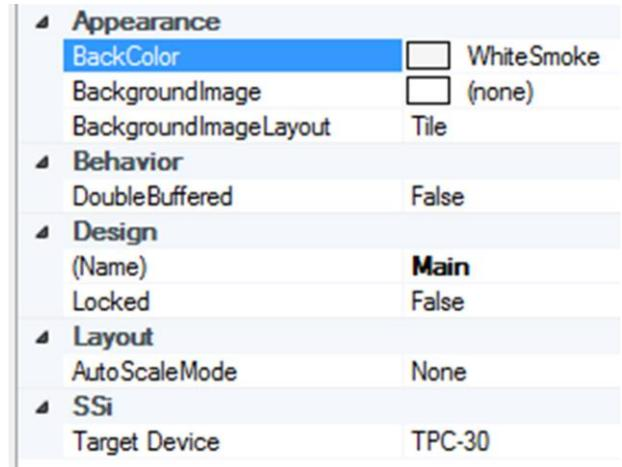

Figure 8 - Panel properties grid
**NOTE:** The first Panel created is called "Main" by default. You may change the name of this Panel (or any others) as you wish. See Table 1 for descriptions of Panel properties and an example properties grid in Figure 8.